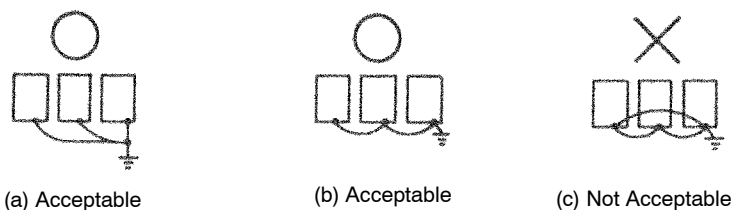

Fig. 15 Grounding of Three Inverter Units
- When using several inverter units side by side, ground the units as shown in Fig. 15, (a) or (b). Do not loop the ground wires as shown in (c).